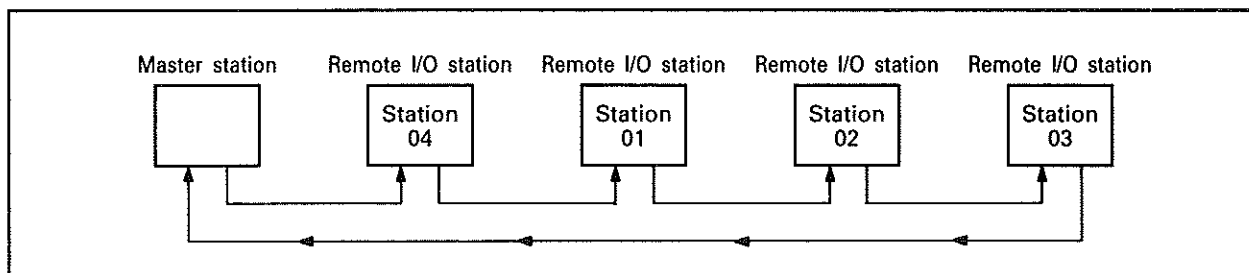

Fig. 5.3 Remote I/O Station Number Setting
- (1) Station numbers may be set between 1 and 64.
- (2) The I/O refresh range depends on the number of remote stations (buffer memory address 0). For example, if 10 exists at address 0, I/O refresh is performed with remote stations 1 to 10.
- (3) Station numbers do not have to be sequential, e.g. as shown in Fig. 5.3.